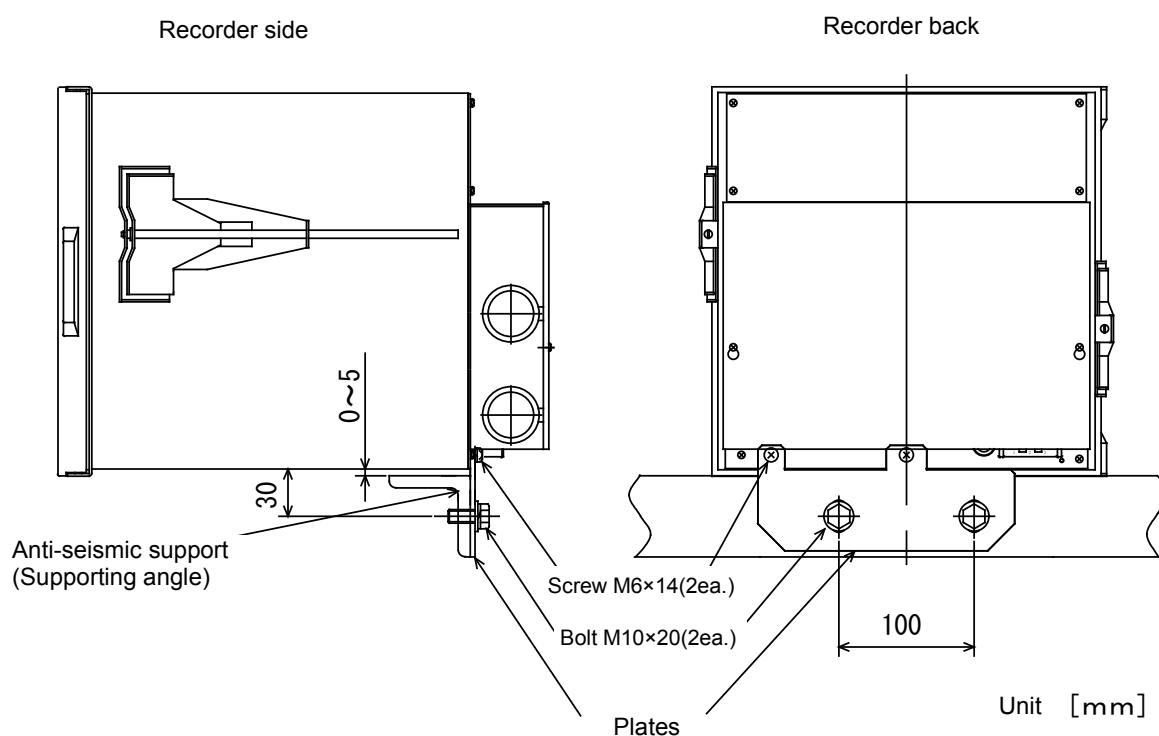

Figure 3.7 Securing the case rear (anti-seismic specification)
(1) If the recorder is an anti-seismic model, the following components should be included:
- Plate (1) Model: H3P18271
- Bolt M10 × 20 (2) With plain and spring washers
- Screw M6 × 14 (2) With plain washer
(2) Mount the components specified in (1) above on the reinforcement angle as shown in Figure 3.7.